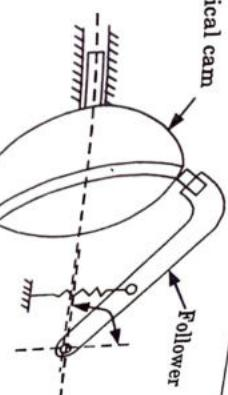

Fig. 5.14.5.
2. A spherical cam is in the form of a spherical surface which transmits motion to the follower (Fig. 5.14.5).